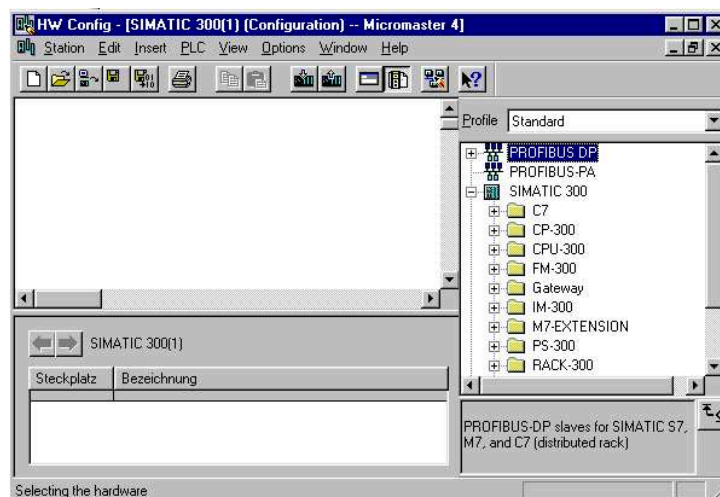

Figure 6-4 Hardware Selection (SIMATIC 300)
8. From the Insert Menu, select Hardware Components, this then opens the hardware library in the right-hand window (see Figure 6-4).
9. Select and expand the SIMATIC 300 (see Figure 6-4).